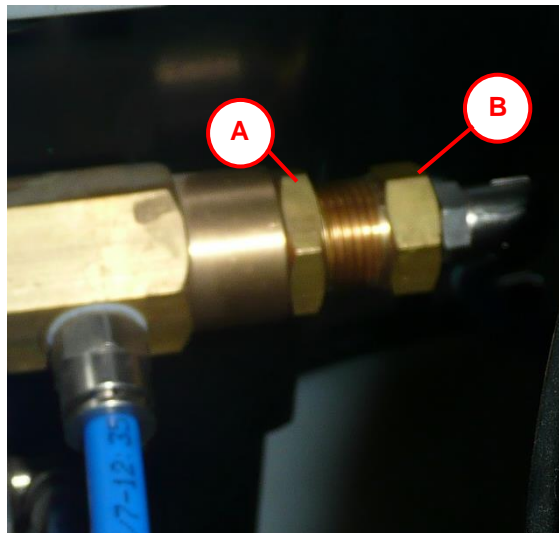

Figure 11.2.1 Adjusting maximum pressure pneumatic circuit
- 4) Open the hood with the engine running and loosen the 22 mm lock nut (Letter A in Figure 11.2.1) on the maximum pressure valve
- 5) To increase the maximum pressure, tighten the 19 mm nut (Letter B in Figure 11.2.1)
- 6) To reduce the maximum pressure, loosen the 19 mm nut (Letter B in Figure 11.2.1)
- 7) Tighten the lock nut when the appropriate pressure is obtained (Letter A in Figure 11.2.1)